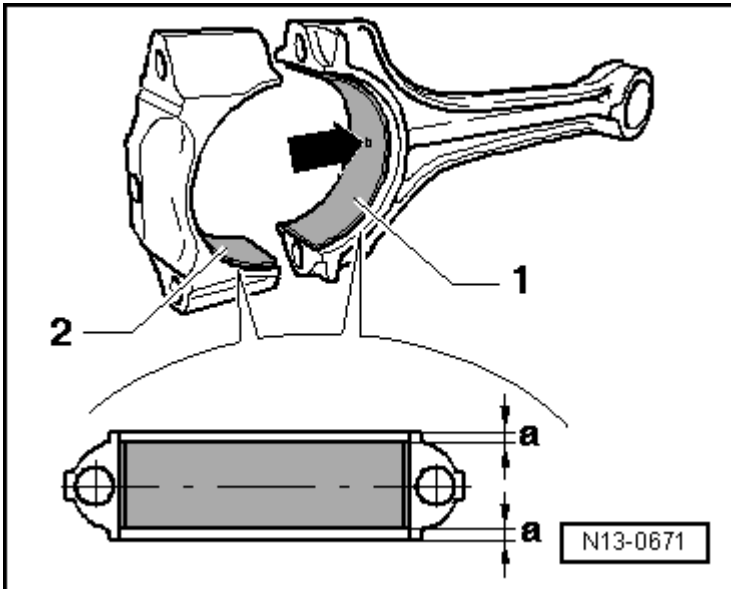

Fig. 28: Identifying Bearing Shells - Installed Positions
- Note the installed position, refer to **Fig. 28**.